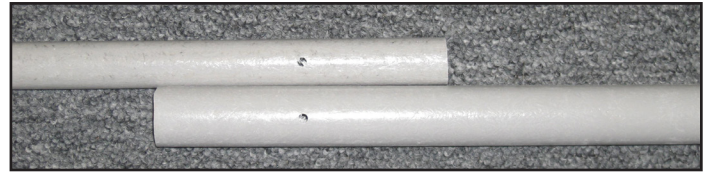
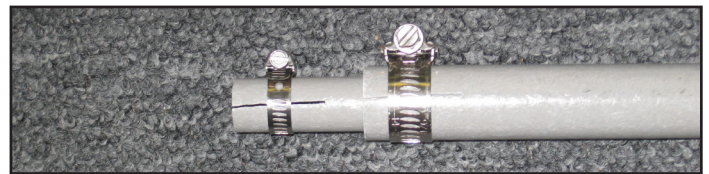

Fig. 24
Fig. 27
- ☐ Repeat the previous five (5) steps and assemble a second element that is of the same orientation as the first Element assembled.
- ☐ The remaining two (2) Elements are assembled in a similar fashion as the previously assembled Elements except the orientation is opposite. See the following figures. See (Fig. 24 through Fig. 27)
- ☐ Assemble the remaining two Elements as shown in Fig. 24 through Fig. 27.